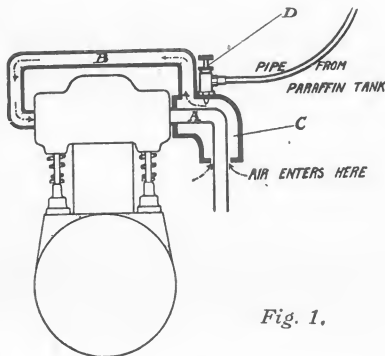
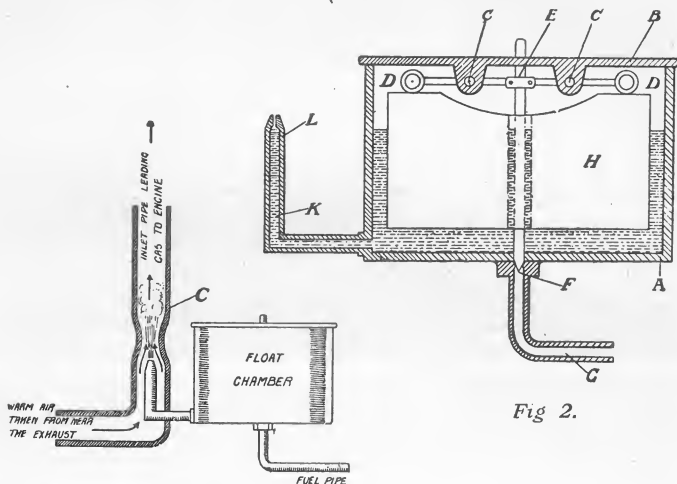
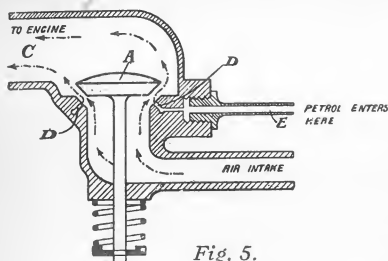

Fig. 1.
Fig. 3.
Fig. 5.
Now, most commercial motors use paraffin or heavy oil as fuel, so we will first consider some kinds of vaporizer suitable for paraffin. We will start with the simplest possible vaporizer. Fig. 1 represents an ordinary four-stroke motor, A being the exhaust pipe and B the inlet pipe. There is a jacket or outer pipe (marked C) surrounding the exhaust pipe, and this jacket is open at its lower end to the air, while the inlet pipe (B) leads out of the top of it. If we suppose the engine to be running, the exhaust pipe will, of course, be hot; the suction of the piston will draw air through the jacket (C) and the pipe (B), and this air will be warmed by passing over the exhaust pipe.
We must now turn to Fig. 3, which shows the jet and float chamber again, but with a pipe (C) surrounding the jet and taking the place of the jacket (C) in Fig. 1. The jet takes the place of the needle valve (D) in Fig. 1. The engine draws warm air through the pipe (C), which, it will be noticed, is smaller just above the jet, and so produces a very powerful suck. Paraffin is drawn up in a spray and mixed with the air.
opening at the top of the jet. This gives us a means of regulating the amount of petrol to suit the needs of the engine. There is also a means of regulating the amount of air to give the best result. The valve (A) is a very weak inlet valve, such as we showed in Fig. 3. There is always a small opening at its lower side, enough when the engine is running slowly, but as the speed increases the suck gets stronger and the valve is opened, letting more air through. A butterfly nut will be noticed outside the carburetter on the right of the valve, and by this the strength of the spring can be set to give the best result.
So far, we have only mentioned the hand-set needle valve (Fig. 1) and the plain jet. There is another form of jet often used on two-stroke engines and illustrated in Fig. 5. Here we have an inlet valve (A) like the one shown in Fig. 3, air being sucked in and passing through the valve as shown